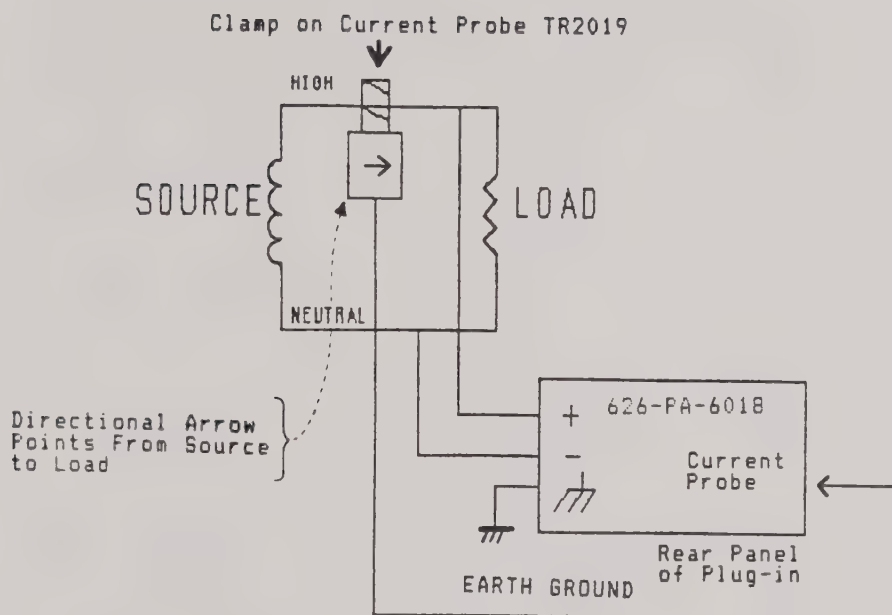

Figure 1. Proper Connections of the 626-PA-6018 with the TR2019 Current Probe.
- c) Remove the terminal strip safety cover in order to expose the connections. Now, connect the single phase line to the three terminals such that the two ac leads are connected to the upper two terminals and the earth ground is connected to the third terminal (see figure 1 on the following page for the polarity required in order to provide the correct sign ($\pm$) on the impulse energy printout). When all of the connections have been made, be sure to replace the terminal block cover, then, reapply the ac power.